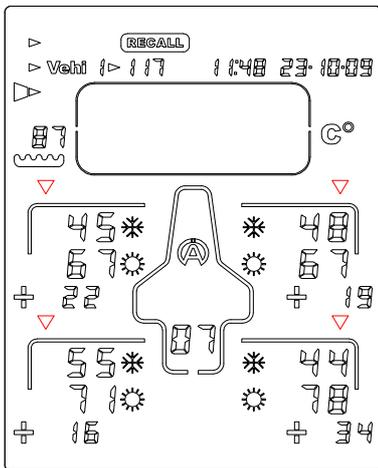

Figure 11
- 5) Press the button  or  : the Tyrecontrol displays the second phase of data, that is to say the outside temperatures of the tires, before ❄ and after ☀ race + the gaps (figure 11).